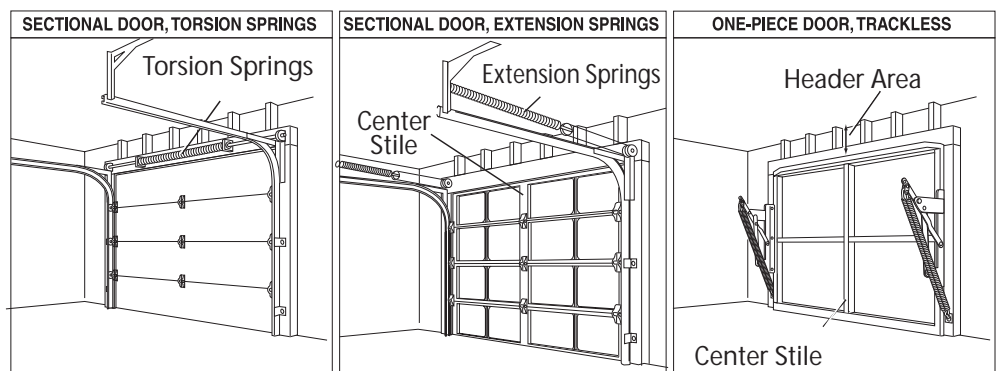

Figure 2 Note Door Type
Check condition of vertical stile in center of door, (**Figure 2**) and its connection to door's top and bottom beams.
- C** Check door type. Make a note of whether it is a sectional or a one-piece door (**Figure 2**).